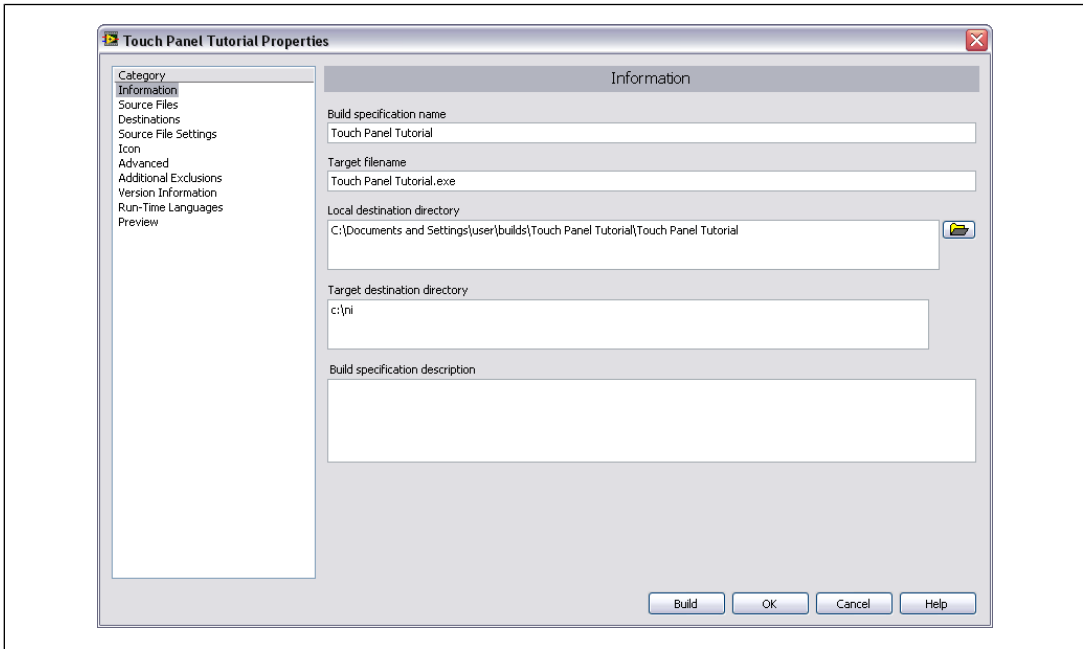

Figure 15. Defining the Application Information
1. Define the settings for the Touch Panel application, as shown in Figure 15.